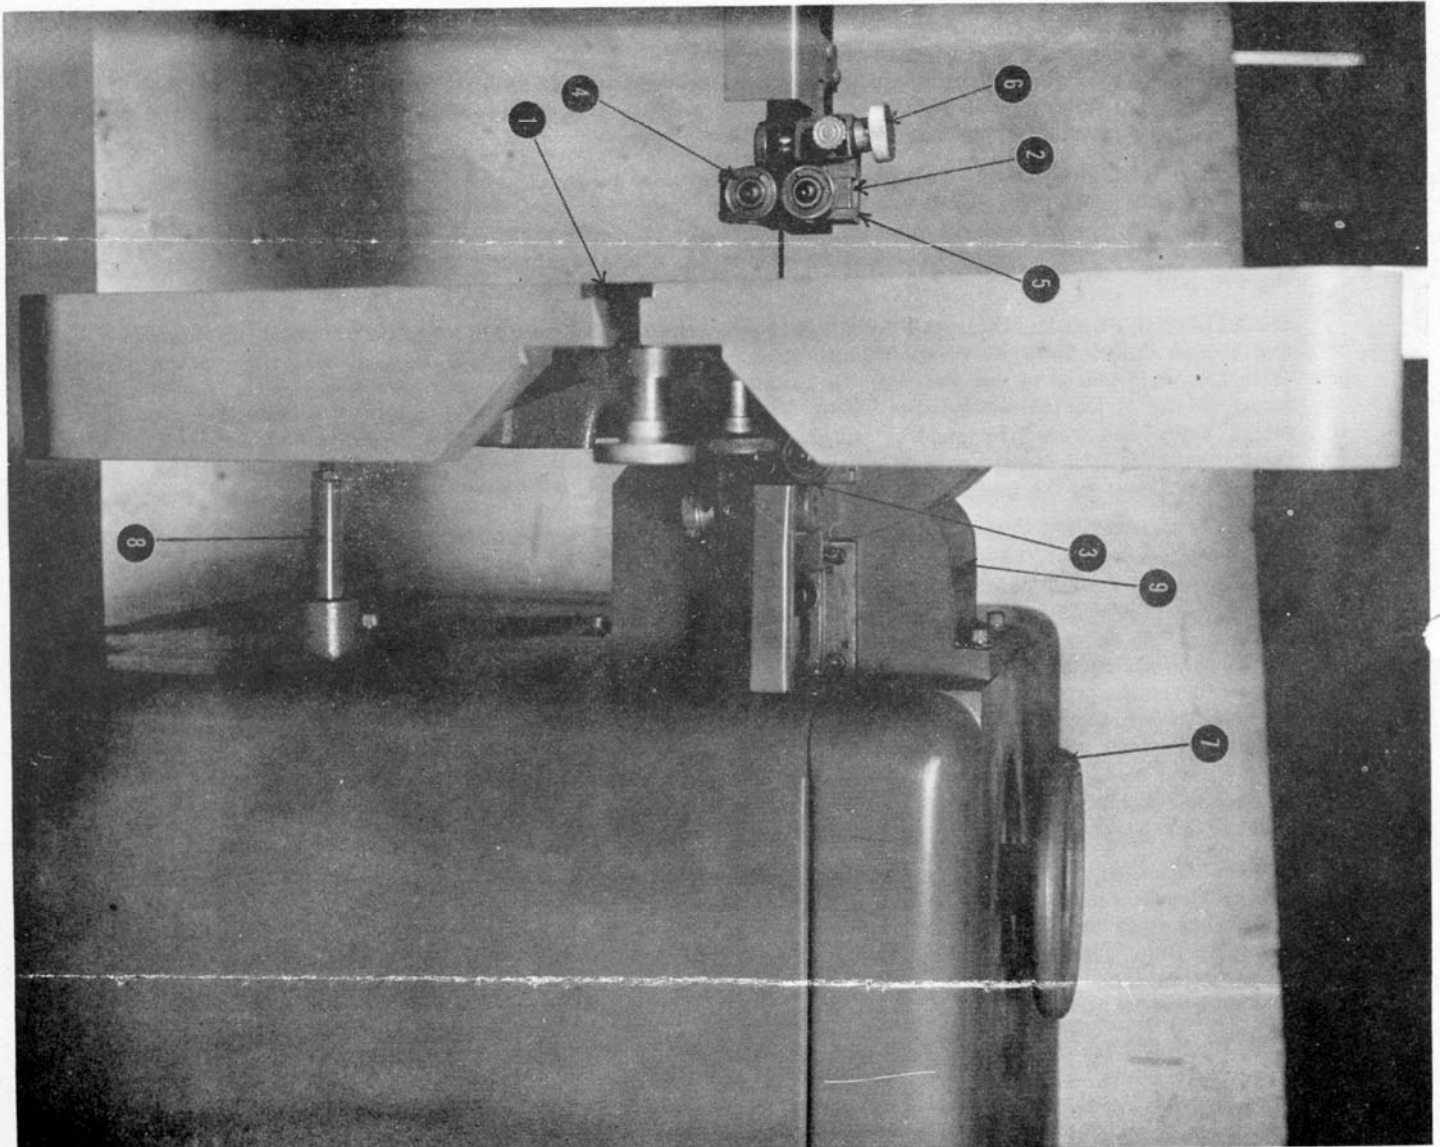

Fig. 1
INSTALLING BLADE: To install band saw blade, remove table insert (1) fig. 1 from table; open top and bottom doors. Take the blade in both hands and slide through table slot and over band wheels. With the blade placed in the center of the band wheels, increase tension on upper wheel with tension screw (2) fig. 2, located under upper wheel. Set upper and lower saw guides so they will clear the saw blade. Turn band wheels by hand to see that saw blade tracks properly. For accurate work and maximum blade life it is important that the blade runs centered on the wheels. When the adjustment has been properly made, the blade will track; that is, it will run steadily in the same line.
BLADE GUIDE ADJUSTMENT: For proper operation, the saw blade must be supported by an upper and lower saw guide. The lower guide is mounted under the table and the upper guide on a counter-balanced bar (3) fig. 2 above the table. The purpose of the saw guide is to support the blade for cutting circles (See 2 & 3, fig. 1). It is very important that the guides be set in proper relation to the saw blade. To set the guides to saw blade, set tension on blade and start the saw to check tracking on band wheel. Set the side blocks or bearings (4) fig. 1 as close to the saw as possible without causing friction or binding. Guide blocks are held in place with socket head set screws (5) fig. 1. After blade clearance is set, the guide holder should be set so that edge of the guides are just behind saw teeth gullets. The back guide consists of a ball bearing mounted in an adjustable bar. The bearing is set 1/64" from the back edge of saw blade when blade is running not loaded. The back guide should be set at a slight angle to back of blade so that the edge of the blade will not cut a groove in back bearing guide. Back bearing is adjusted by turning knurled knob (6) fig. 1.
TABLE ADJUSTMENTS: The table is mounted on an extremely heavy duty single action trunion that rests on trunion base (9) fig. 1. The table may be tilted to the right 45 degrees and to the left 15 degrees. Table is locked in position with trunion handwheel mounted on side of machine base (7) fig. 1. To level table with blade, raise counter-balanced arm to highest position and place machinist square against side of blade. Set table stop (8) fig. 1 on side of table by adjusting screw on top of the stop. Stop bar may be removed for tilting table to the left.